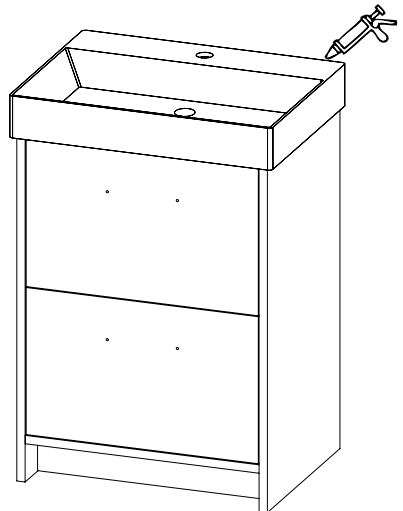

Fig. 3
6. Silicone along back edge of basin/countertop and along the back of the unit and wall as per *Fig. 3*. Allow to set fully.